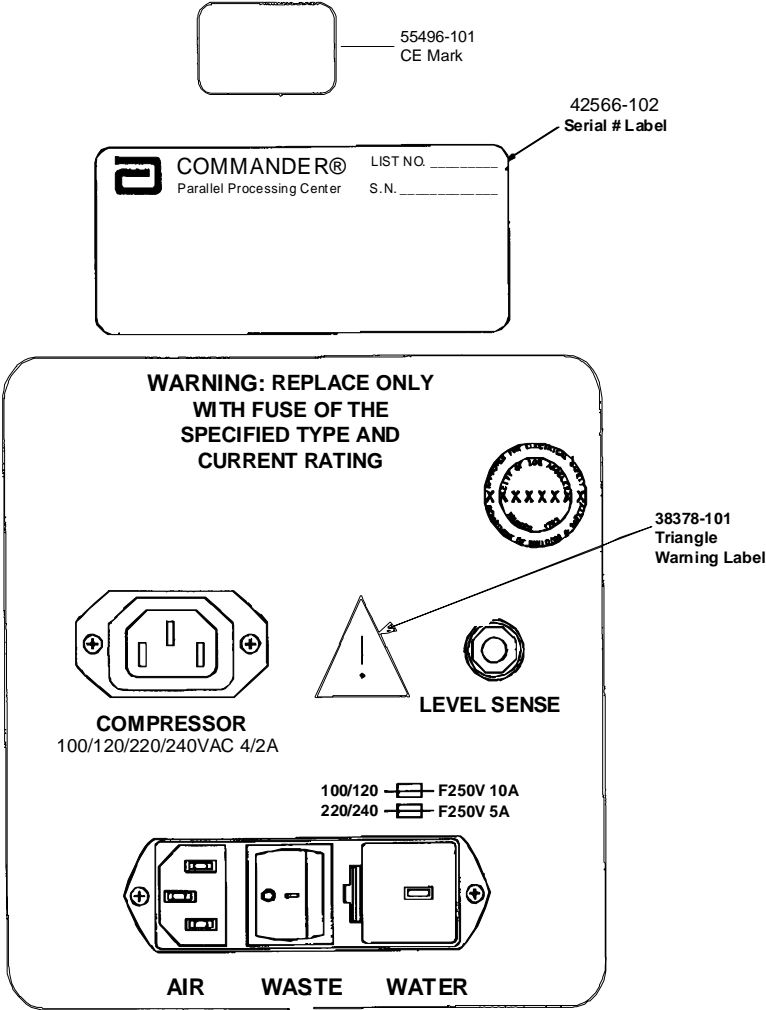

Figure 14: Power Entry Front Face
- a) Locate the CE Mark Label (55496-101), one (1) Triangle Warning Label (38378-101), and Serial Number label (42566-102), listed in the accessories parts listing.
- b) Peel the protective backing from the Triangle Warning Label and place it in the area designated in **Figure 14**.
- c) Place the CE Mark label onto the PPC instrument Side Panel as designated in **Figure 14**.